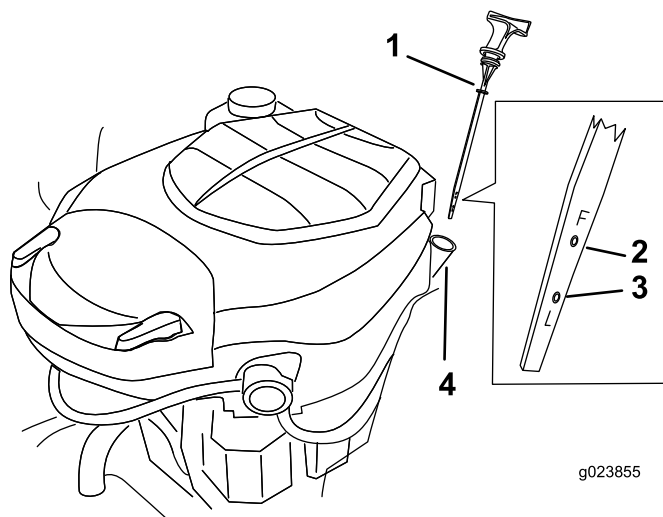

Figure 29
4. Remove the dipstick; wipe the oil off (Figure 29).
6. Pull the dipstick out, and check the oil level. (Figure 29).
8. Remove the oil-fill cap/dipstick (Figure 29).
18. Slowly pour approximately 80% of the specified oil into the filler tube (Figure 29).
19. Install the oil-fill cap/dipstick (Figure 29).
20. Check the oil level (Figure 29).
22. Install the oil-fill cap/dipstick (Figure 29).